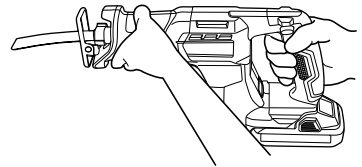

Fig. 15
- Do not remove the front cover. Be sure to hold the body from the top of the front cover (Fig. 15).